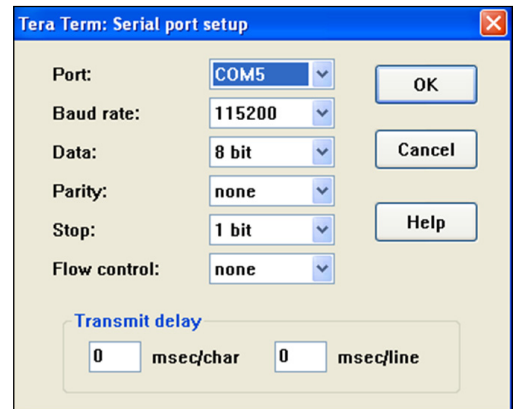

Figure 12: COM Properties Box
3. Enter the COM port on the DMP-7000 connected to the VIP-4400 in the **Port** field. Refer to **Figure 12**.
Check that all other parameters are set as shown in **Figure 12**. Refer to **Figure 13** for an example of Tera Term configuration.